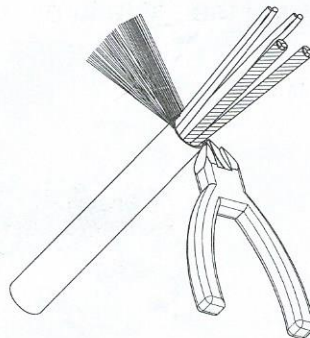

Fig.6
2) Move the braid to a side forming small bundle (Fig. 6)